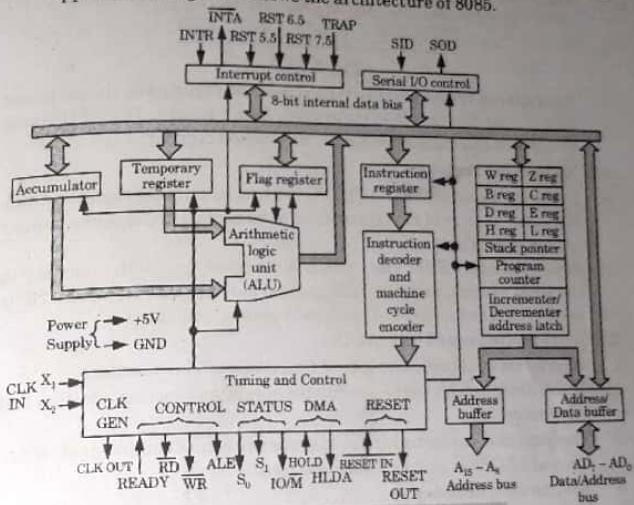

Fig. 2.3.1, Internal architecture of 8085.
B. **Internal architecture or functional block diagram** : The 8085 is an 8-bit, general-purpose microprocessor that is ideally suited to many applications. Fig. 2.3.1 shows the architecture of 8085.